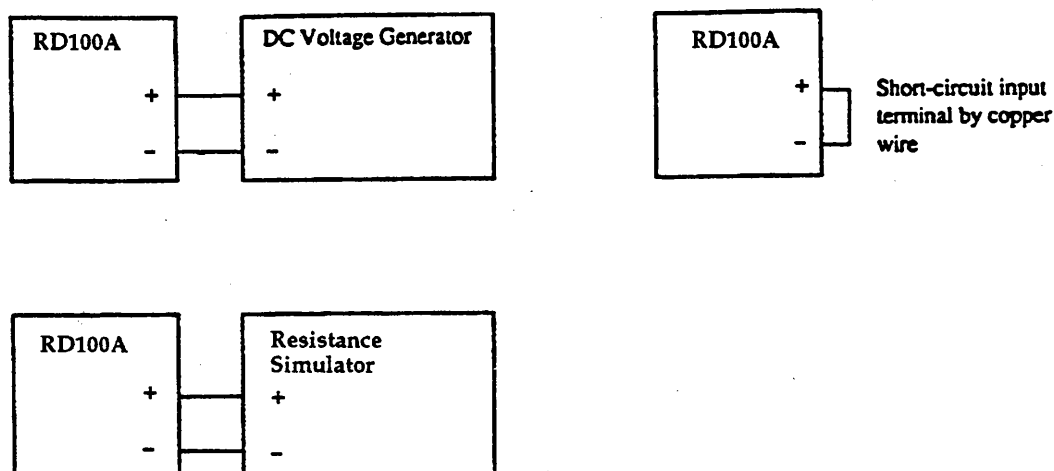

Figure A-3. Measurement Accuracy Test Connections
Required equipment is a dc voltage generator (with a DCV accuracy of  $\pm 50 \mu\text{V}$ ) and a resistance simulator (CL8300 or equivalent), with an accuracy of  $\pm 10 \mu\text{V}$ . The connection is shown in Figure A-3.
1. Connect the equipment as shown in the upper left portion of Figure A-3
8. Connect the equipment as shown in the upper right portion of Figure A-3.
14. Connect the equipment as shown in the bottom left portion of Figure A-3.